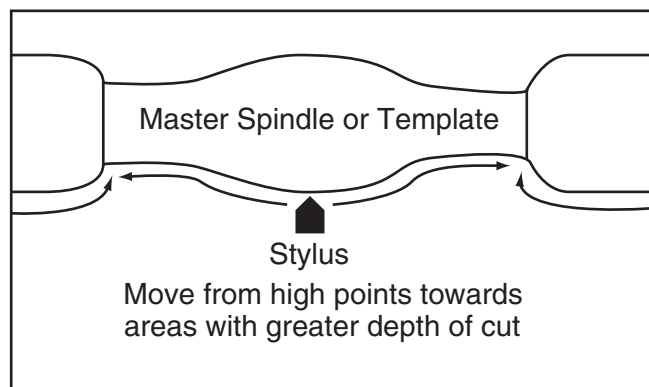

Figure 17. Recommended direction of stylus travel.
Note: Always move stylus so it follows the template “downhill”. Trying to move “uphill” along the template will cause the stylus and cutting tool to dig into the template and workpiece (see **Figure 17**).
13. If you are satisfied, continue to remove material from workpiece, using "downhill" cutting method illustrated in **Figure 17** on **Page 17**.